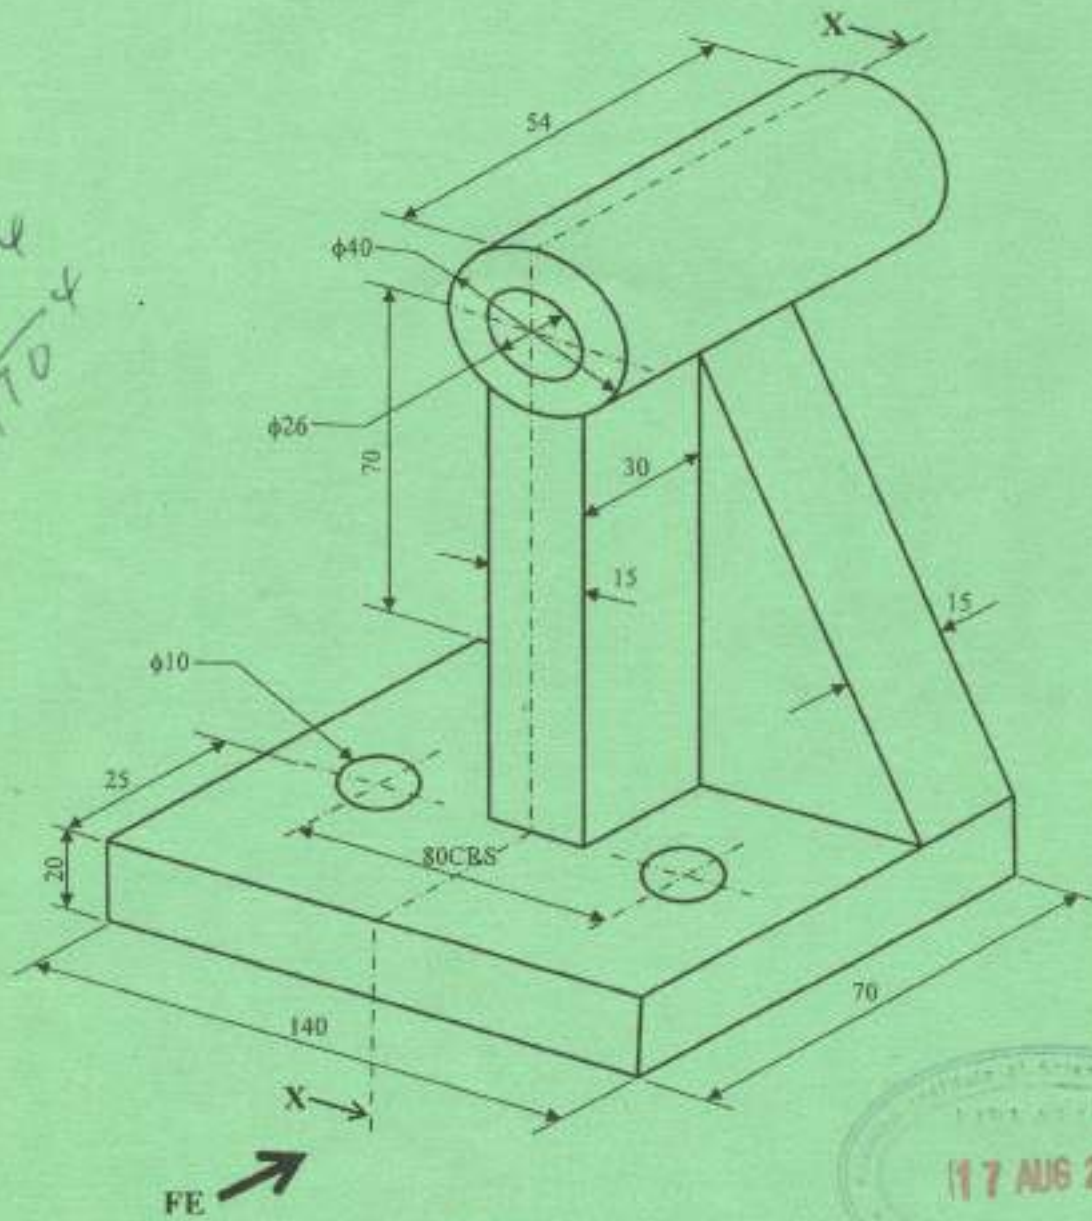

Fig. 4
8. Figure 4 shows a rocker bearing drawn in isometric projection. Using third angle orthographic projection, draw the following in full size and indicate six dimensions.